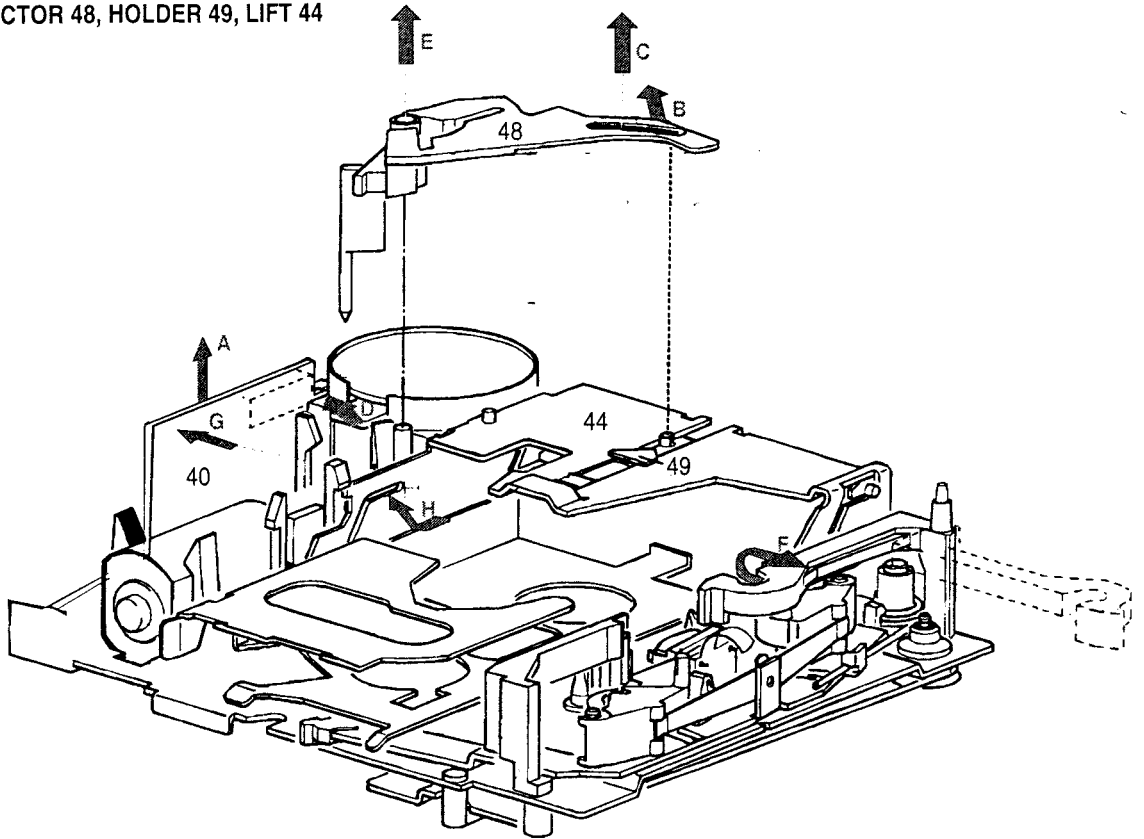

Fig. 1
- 1.2 Lift in play position - unclamp cassette holder (49) from eject lever (48) with a left-upwards motion acc. fig.1-B
- 1.3 Lift in eject position - push plastic hook (fig:1-D) and pull out eject lever, remember position of ejector spring (55) and switching pin (54) for re-assembly later on
- 1.4 Release fixation lever (fig.1-F) by clicking out in left direction and then turn to the right
- 1.5 Lift in mid position - take out carrier and lift by releasing plastic hooks at the left (fig.1-G)